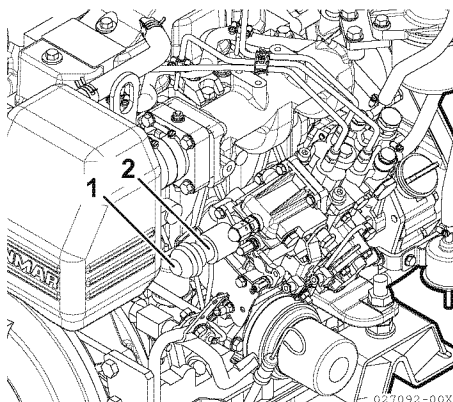

Figure 20
Operate the starter while pushing in the emergency stop button (**Figure 20, (1)**) on the back of the fuel pump. This stops the fuel supply.